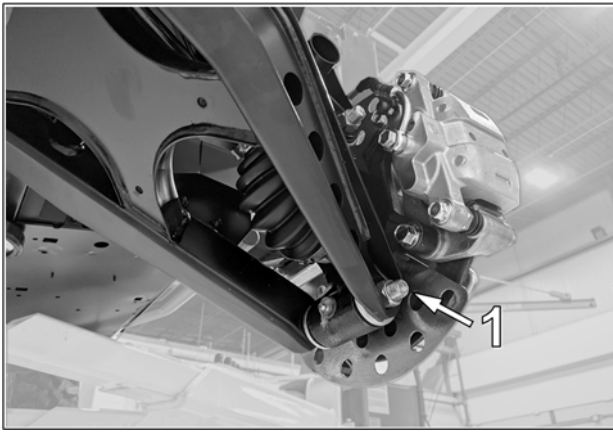

Fig. 4
- Remove bolt (1) that links lower suspension arm to wheel knuckle. See Fig. 4